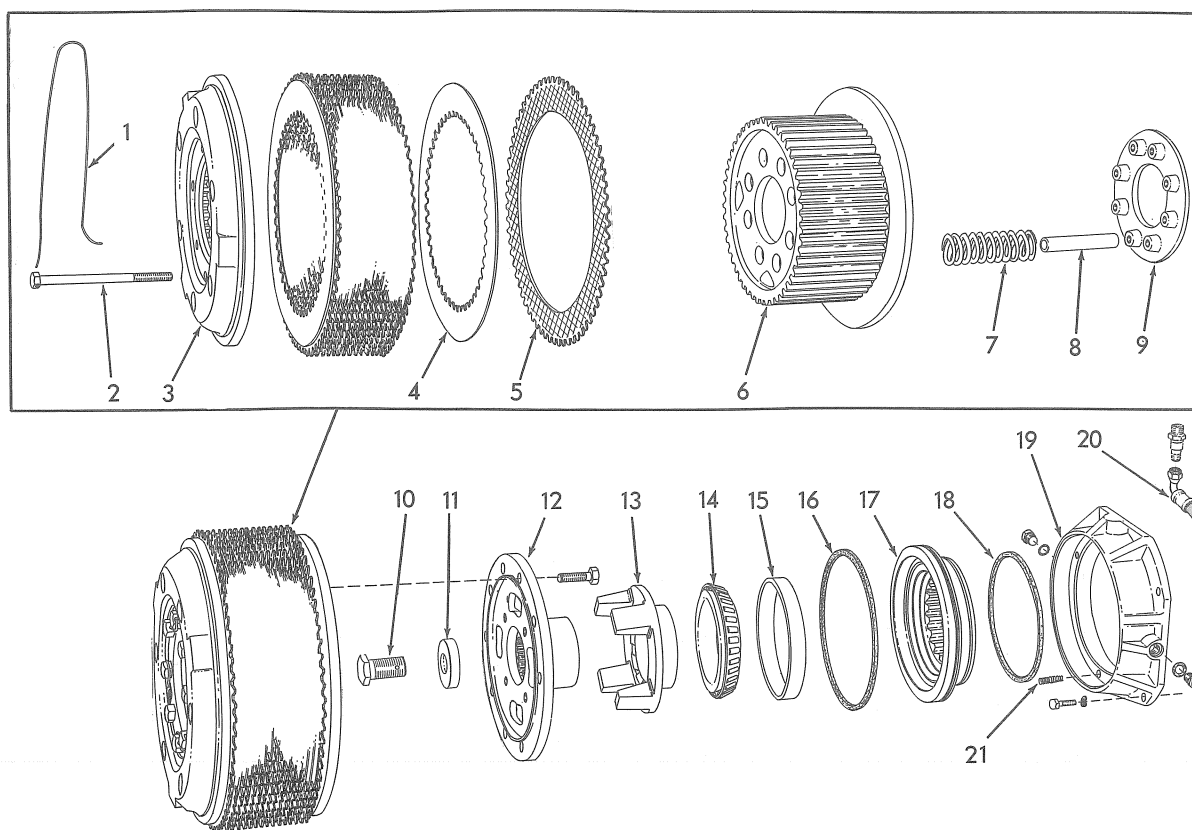

FIG. 17 STEERING CLUTCH
Clean components before assembly. Place clutch hub, Fig. 17 (6) -- flanged side down -- on work bench. Stack clutch discs (4) (5) alternately on hub, beginning with bi-metallic (5) then steel (4), etc., until all discs are on hub (16-bimetallic and 16 steel).
Place backing plate (described in 6.2.2) on work bench; place throwout plate, Fig. 17 (9) on backing plate with spring bosses up. Place brake drum over throwout plate with final drive side down; use blocks, Fig. 19, to keep drum approximately level with throwout plate.
Install pressure springs Fig. 17 (7) over spring bosses on throwout plate; insert spacer (8) into each spring. Align marks placed at disassembly and install clutch hub (6) in position over springs; be sure springs are properly seated in hub.
Install actuating piston sealing rings, Fig. 17 (16) (18); clamp sealing rings in their grooves (use large hose clamps); allow to set approximately 30 minutes.
Install springs, Fig. 17 (21) in collector ring (19); lubricate sealing rings and install actuating piston in collector ring. Install collector ring and actuating piston on bevel gear shaft bearing cage, Fig. 12; connect oil line to collector ring.